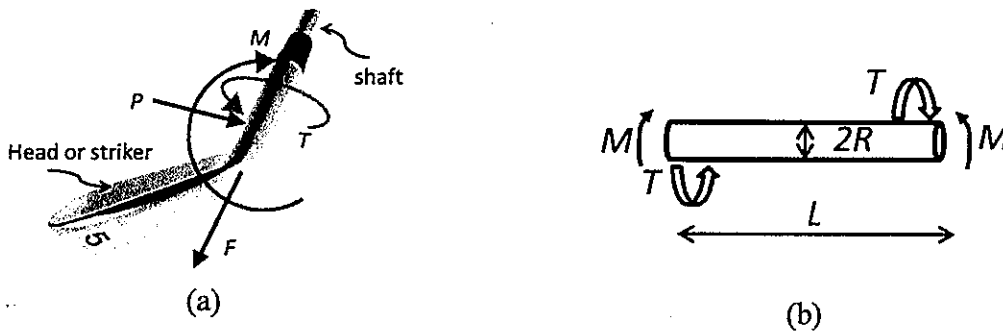

Figure 3(a): Schematic of a golf club, and (b) the beam-shaft design for the prescribed length L and radius R .
2. Material for a *light weight* golf club shafts are to be identified. The golf-club shaft of prescribed length, L , is made into solid circular cross-section of unspecified radius, R . The complex loading is shown schematically in Figure 3(a), where the most dominant being the bending moment, M , and twisting torque, T apart from non-dominant radial force, P , and axial force, F . Under the applied load of M and T , the maximum bending stress should be less than material failure or yield strength and the angle of twist, θ , should be less than θ_0 . Answer the following questions: